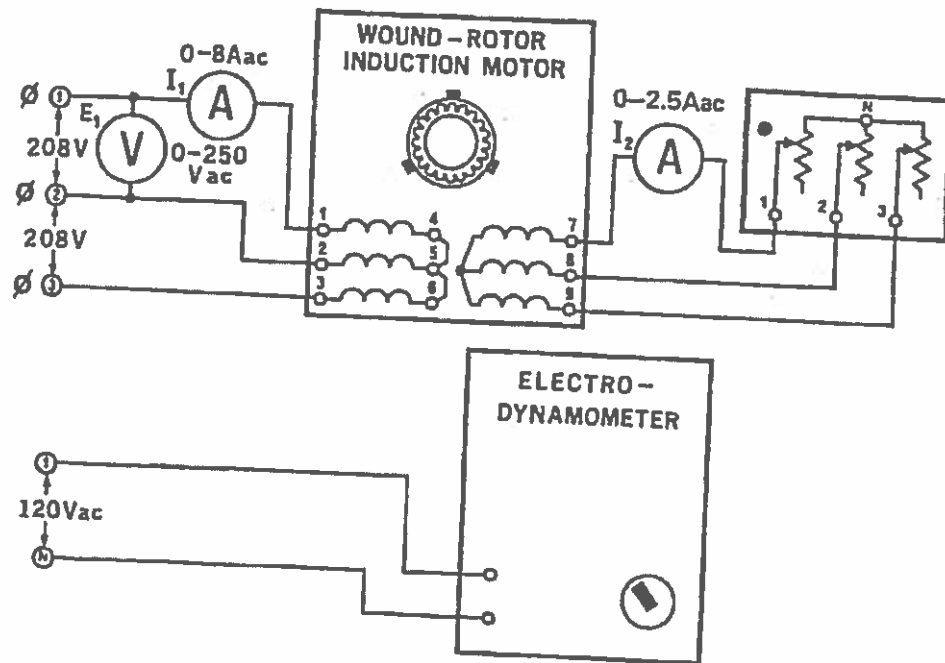

Figure 51-2.
- a. Connect the circuit shown in Figure 51-2. Note that the fixed 3 ϕ output of the power supply, terminals 1, 2 and 3 are now being used.